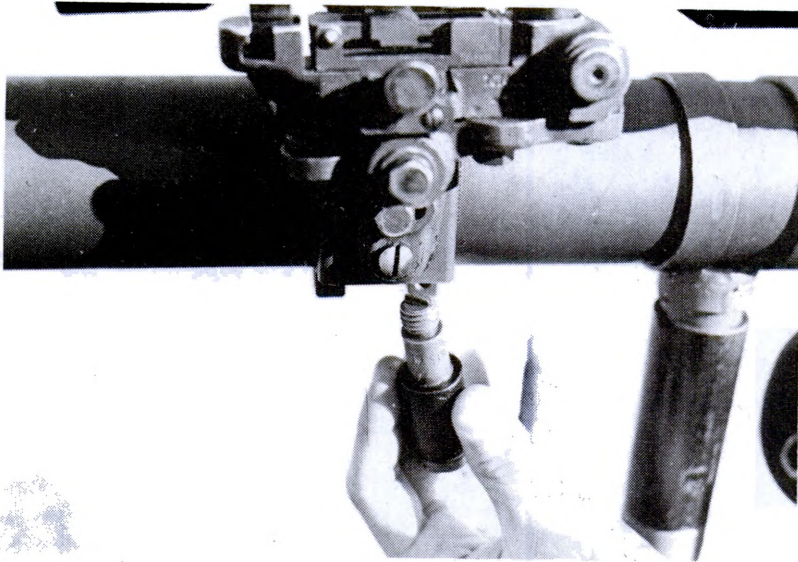

Figure 4
b. Turn the elevation eccentric until the horizontal line of the boresighting cross of the reticle is on the distant aiming point (fig. 4).